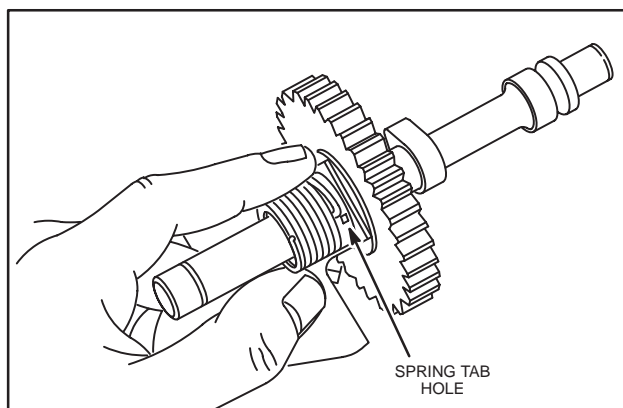

Fig. 161 – ASSEMBLE CLUTCH SPRING
1. Assemble clutch spring as shown in Fig. 161.